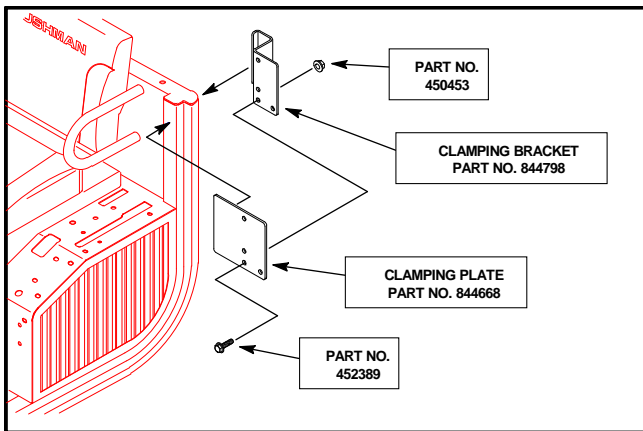

Figure 11
3. Install the clamping bracket (Part No. 844798) and clamping plate (Part No. 844668) onto the ROPS structure just to the left of the hand hold on the left side of the vehicle (See Fig. 11 & 12).
4. Secure using two (2) M8-1.25 x 25 screws (Part No. 452389) and M8-1.25 flange nuts (Part No. 450453). **Do Not** tighten, these will also be tightened when the elevator is mounted (See Fig. 11 & 12).